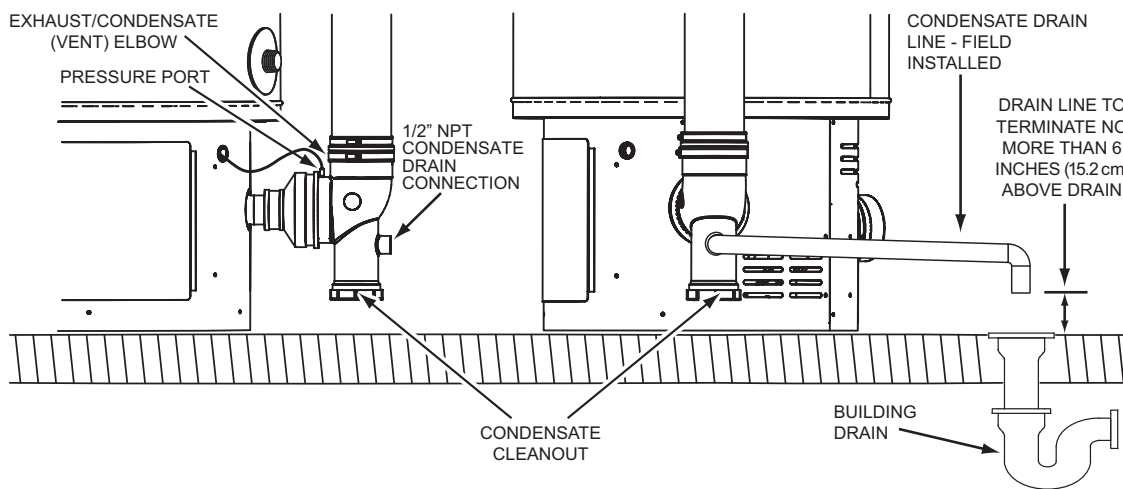

Figure 36
2. Install a 1/2 inch PVC condensate drain line between condensate drain connection on the Exhaust/Condensate Elbow and a suitable building drain with a slight downward slope to drain. The exhaust elbow has a "built in" condensate trap. Do not install an additional trap in the condensate drain piping. See Figure 36.
3. Terminate the condensate drain piping with an elbow above the drain. Ensure that any discharge will exit the condensate drain line no more than 6 inches (15.2 cm) above a suitable building drain, or external to the building, see Figure 36.
4. Ensure the condensate drain line is not elevated above the condensate drain connection on the Exhaust/Condensate Elbow, see Figure 36.